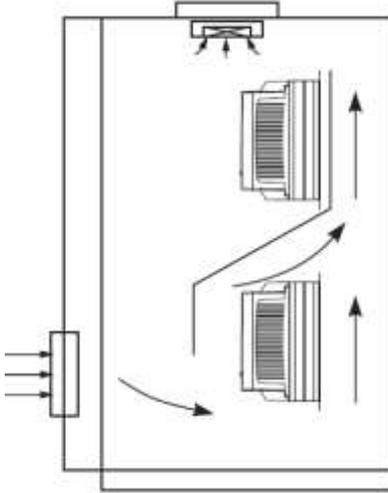

Fig.3-2 Installation of multi inverters
Note: When the inverter is installed vertically, please mount a heat-insulated baffle shown as Fig.3-2.
- 1) The inverter should be installed vertically, which enables the heat to emit upwards easily, but it should not be mounted reversely. If many inverters need to be installed in a cabinet, you'd better install them side by side. If the inverters need the top and bottom installation, please mount a heat-insulated baffle shown as Fig.3-2.